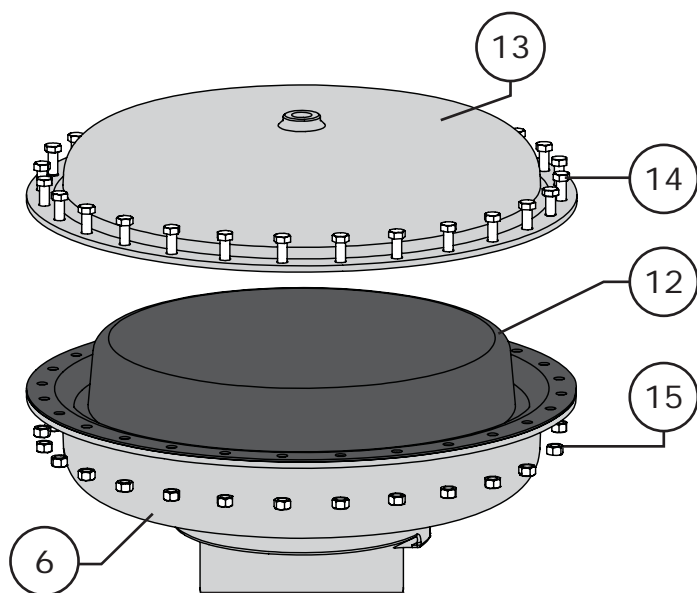

Figure 13 Upper Diaphragm Casing Disassembly Steps 1 & 2
- 1 Carefully remove the casing cap screws (Key 14) and nuts (Key 15). Spring tension should have been removed prior to removing the casing cap screws but caution should be taken should there be any residual tension putting force on the upper diaphragm casing (Key 13). Refer to Figures 13 and 14.